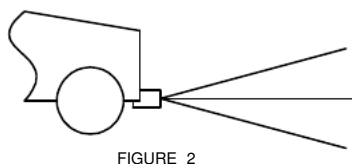

FIGURE 2
- 15° angle up or down from horizontal (See Figure 2).